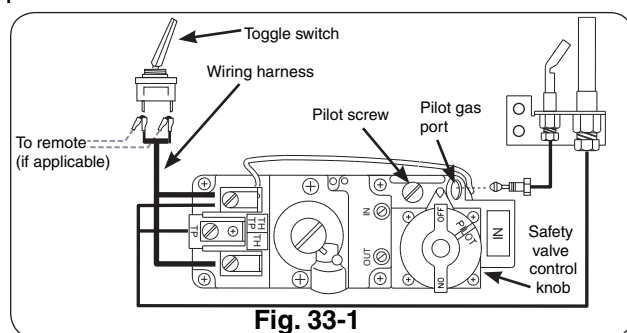

Fig. 33-1
To read the safety valve control knob (Fig. 33-1), read the marking nearest the teardrop-shaped metal pointer.
- b. If adjustment is necessary (Fig.33-1), turn the gas adjustment screw counterclockwise ↺ to increase the pilot flame, or clockwise ↻ to decrease the pilot flame.